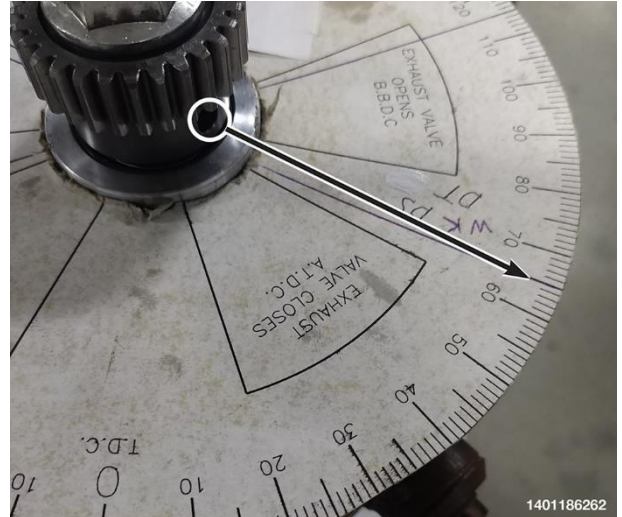

Figure 195 – Installing a Printed Paper Degree Wheel from the Internet
- 39. Install the degree wheel onto the fuel injection pump with the zero at the fuel quantity solenoid then mark the location of the hole in the gear on the degree wheel (Figure 195).